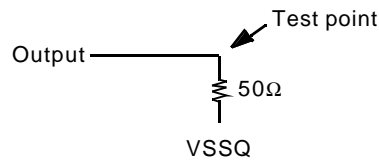

Figure 1 : Pullup slew rate test load
a. Pullup slew rate is measured under the test conditions as shown in Figure 1.